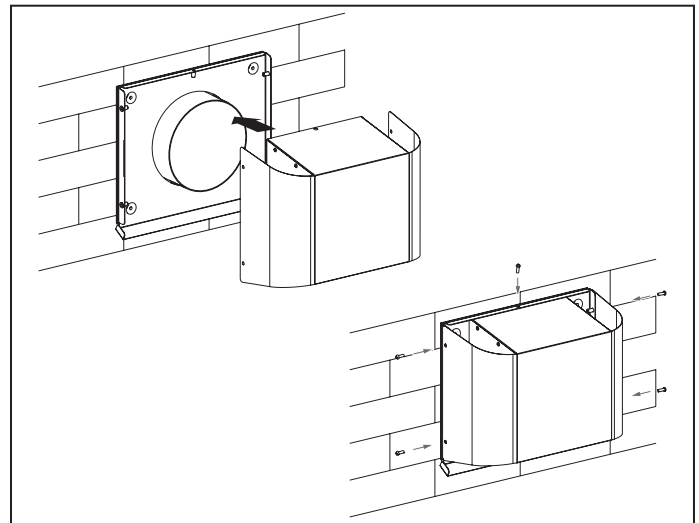

Fig. 15b.
- Fig. 15b - for VENTO Expert A50-1 S Pro model.